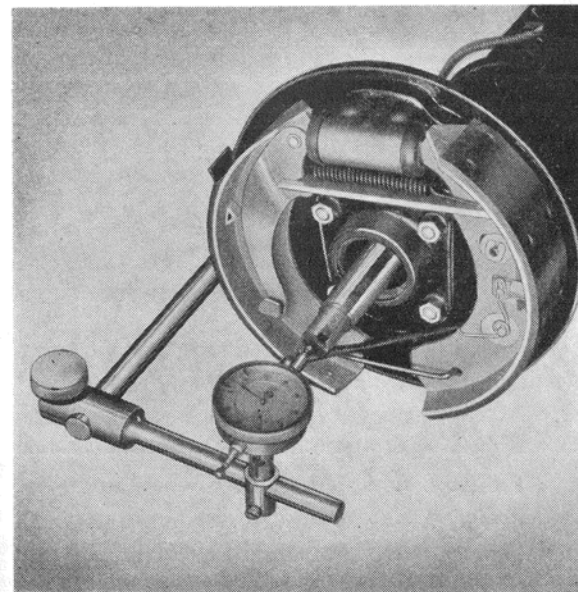

Fig. 45. Measuring the axle shaft end play.
5. Check axle shaft end play and adjust if necessary. See fig. 45. See the specifications for the permissible end play.